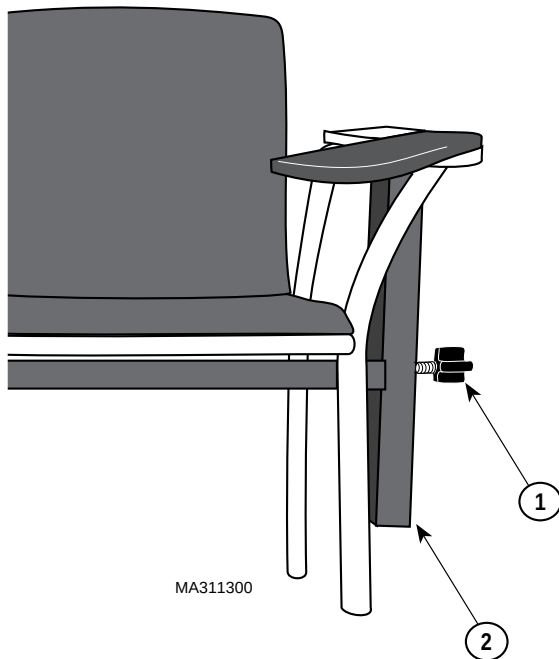

FIGURE 8
1. Loosen the knob (1, Fig. 8) on the "H"-Frame (2, Fig. 8).